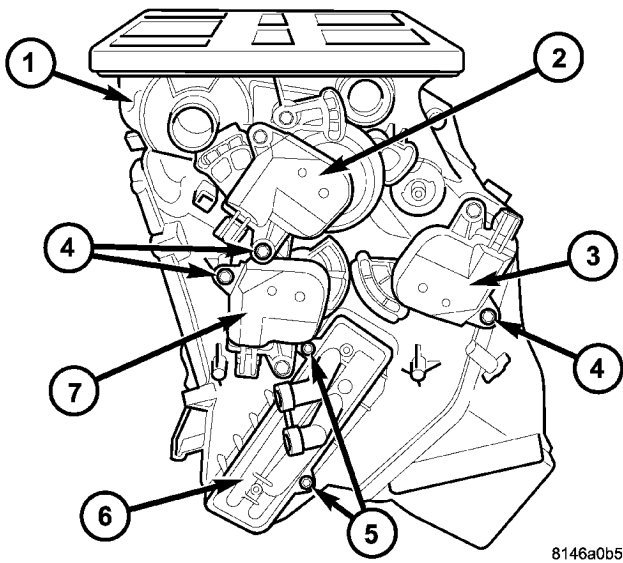

Fig. 19 Actuators and Heater Core
(1) Remove the air distribution housing from the HVAC housing and place it on a workbench (Refer to 24 - HEATING & AIR CONDITIONING/DISTRIBUTION - FRONT/HVAC HOUSING - AIR DISTRIBUTION HOUSING - REMOVAL).
(2) Remove the two screws that secure the heater core to the driver side of the air distribution housing and carefully remove the heater core (Fig. 19).
(3) Remove the screws that secure the mode door actuator and the two blend door actuators to the driver side of the air distribution housing and remove the actuators.